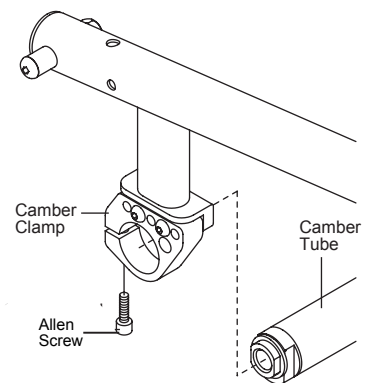

Figure 66
2. Loosen, but do not remove, the Allen Screw that secures the camber tube to each camber clamp. See Figure 66.